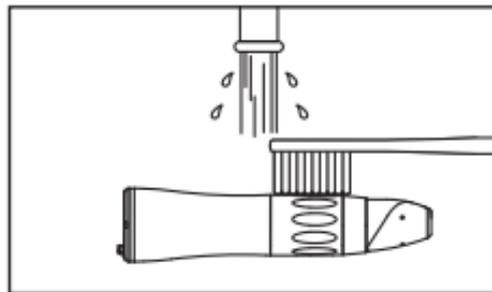

Fig. 13
- 1 Clean the external surfaces of the handpiece with a soft bristled toothbrush for 15 seconds or more. (Fig. 13)